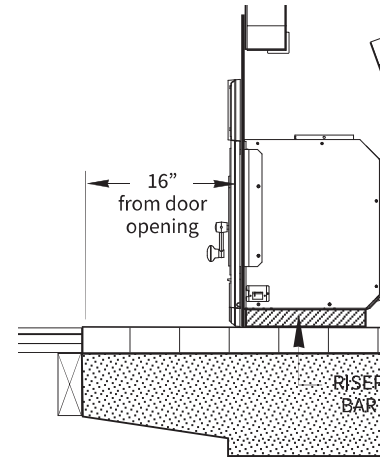

Figure 60. Required hearth protection when hearth is flush with combustible floor materials. Riser Bar must be used.
- Flush Hearth: Where hearth construction is flush with combustible floor materials, the insert must be elevated with use of the 2" Riser Bar. See fig. 60.